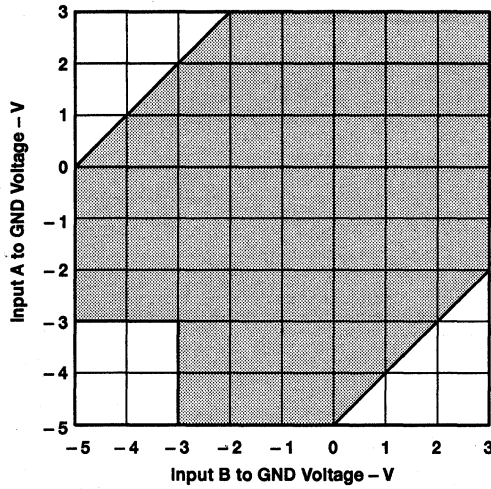

Figure 1. Recommended Combinations of Input Voltages
7. The recommended combinations of input voltages fall within the shaded area in Figure 1.